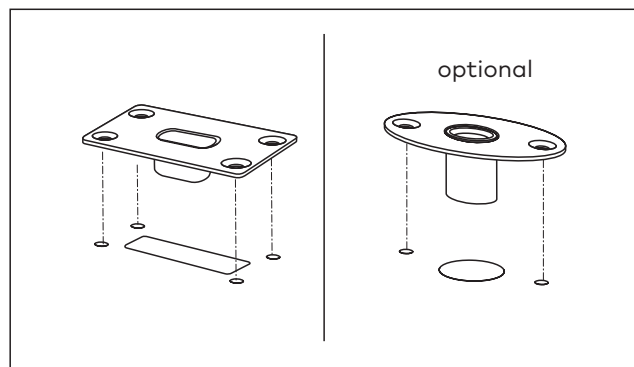

Fig. 51 Mount masking plate
16. Mount the masking plate for the lower espagnolette bolt in the floor (Fig. 51).